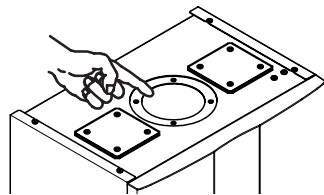

Fig. 7.4
**Fill the built in condensate trap by removing the flue elbow and pouring a cupful of water into the flue outlet (Fig. 7.4).**